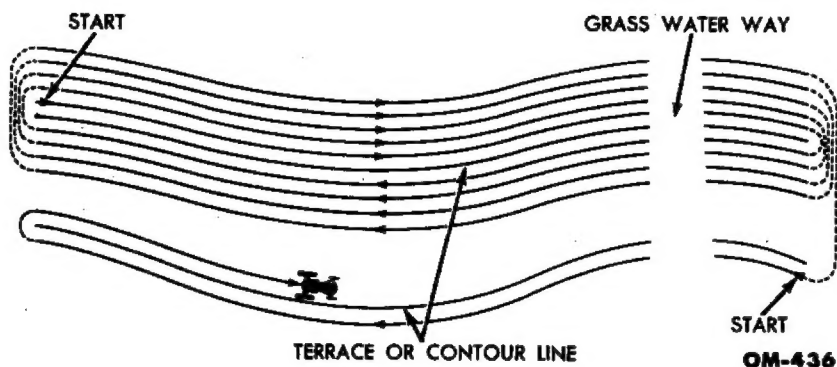

Fig. 81—Contour Plowing
c. **Contour Plowing.** Many farmers prefer to plow on the contour for soil conservation reasons. When plowing terraced land, it is possible, during seedbed preparation, to turn the soil in such a manner as to build up the terrace crown (fig. 81). The short coupled, maneuverable Ford Tractor and Dearborn Moldboard Plows are exceptionally well-suited to contour plowing. The Ford Tractor Hydraulic Control eliminates lever tugging when crossing unplowed grassed waterways.